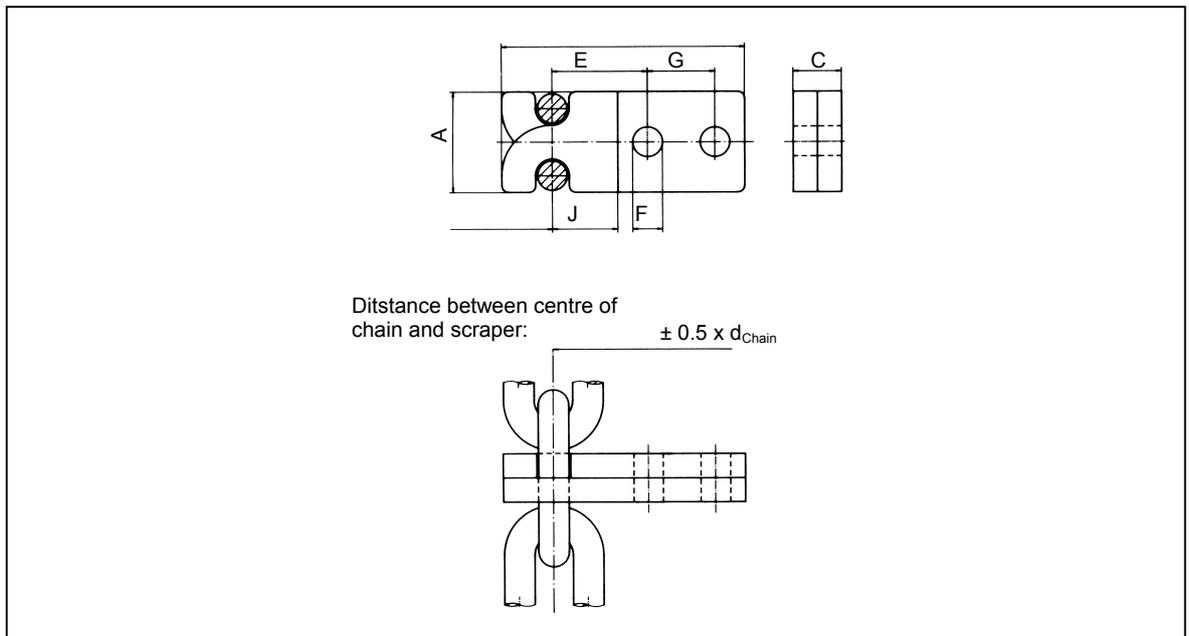

Fig 3
3. Adjust the attachment parts so that there is no play between them and the chain (figure 3).